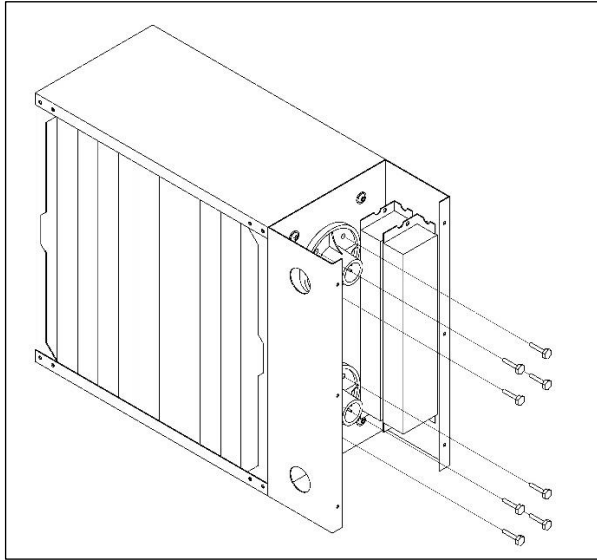

Figure 11
6.) Lamps are attached to catalyst panel with (4) 10-16 Self-Drilling screws per lamp. Remove the screws using a 5/16" socket wrench. See Figure 11.
10.) Reinsert (4) screws per lamp using a 5/16" socket wrench. See Figure 11.